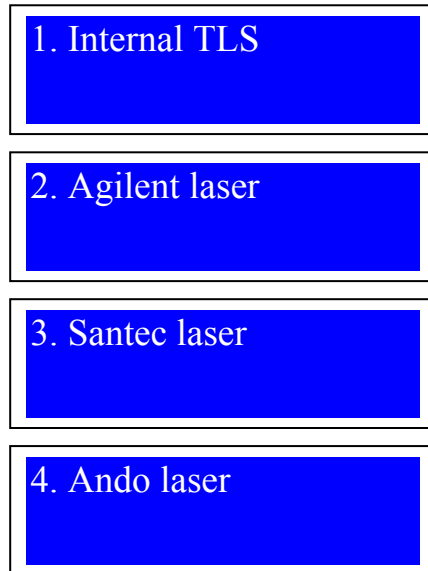

Figure 49 Laser selection screens
- Go to TLS setup interface by pressing the **TLS** key (Figure 49).